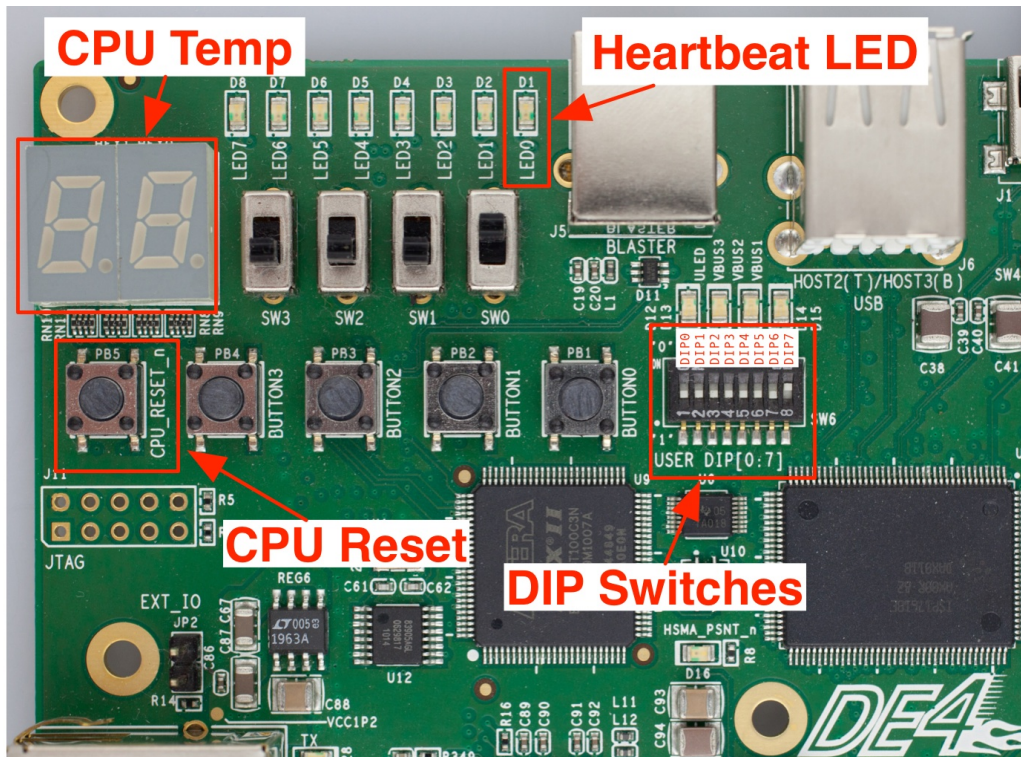
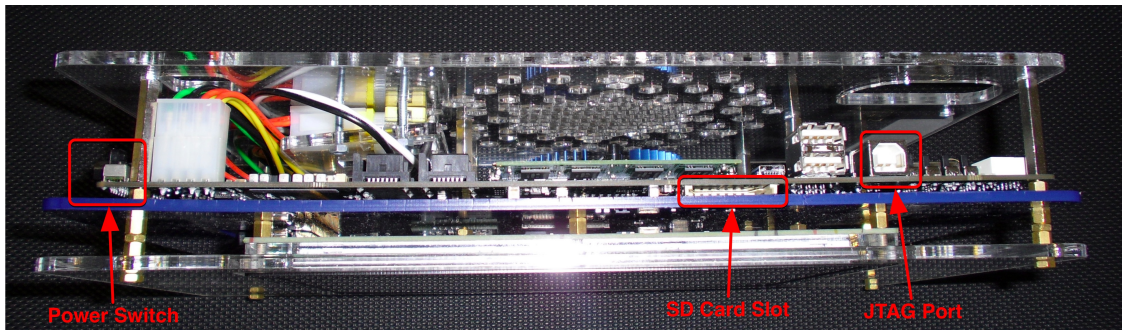

Figure 1: DE4 buttons and switches
Figure 2: Top of the demo DE4 package
First, make sure DIP0 and DIP1 on your board are in the ON (UP) position. The DIP switches can be seen in Figure 1. Note that they are numbered 0-7, but the physical switch is labeled 1-8. This causes the bitfile to load with the loader paused. Second, connect the USB cable and turn the board on. The location of the JTAG USB port and power switch can be seen in Figure 2.